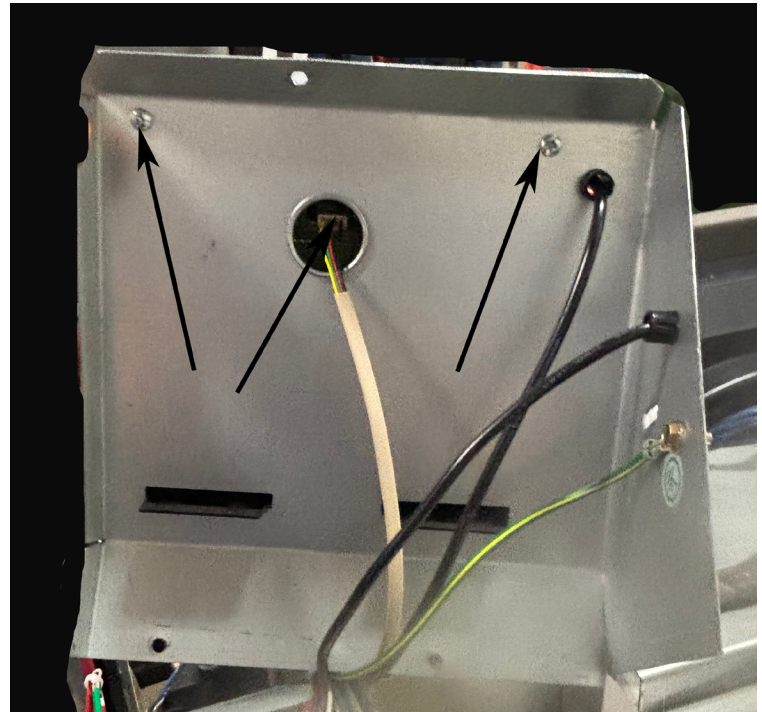

Figure 720
6. Remove two (2) mounting screws securing UI and disconnect ribbon cable.. Refer to Figure 720
11. Install new UI using the 2 screws. Refer to figure 720.